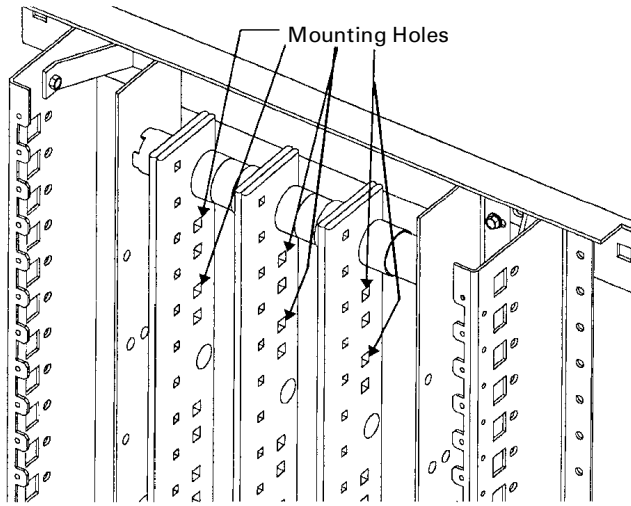

Figure 4. Bus bar mounting holes.
3. Align the mounting holes. Align the lug strap mounting holes with the first and third bus holes from the box end stamped LINE on the rear row of holes, as shown in Figure 4.